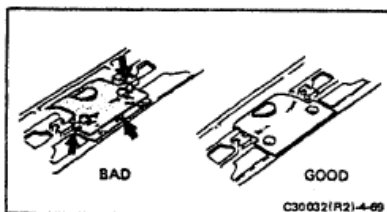

FIGURE 4-69 FRESNEL LIGHT STOP POSITION
- The stock light stops have adhesive already applied. Peel off the backing paper and press the light stop into position on the carrier. Avoid wrinkles or creases. The location of the light stop is critical; if not precisely positioned, the camera might have a failure similar to an intermittent S3 mode function. Replace the light stop in the correct location (see Figure 4-69).